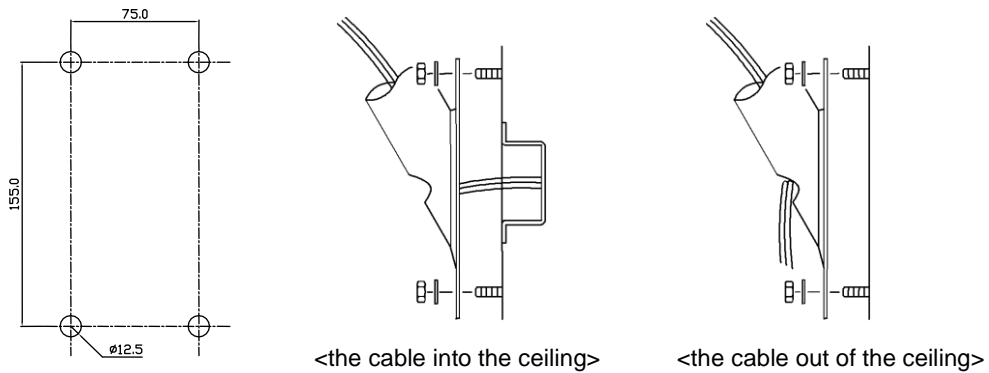

FIG. 16
1. If you want to install the speed dome on the concrete wall, you need to make 12.5mm diameter 4 holes by drill like FIG.16 (Depth 37mm)